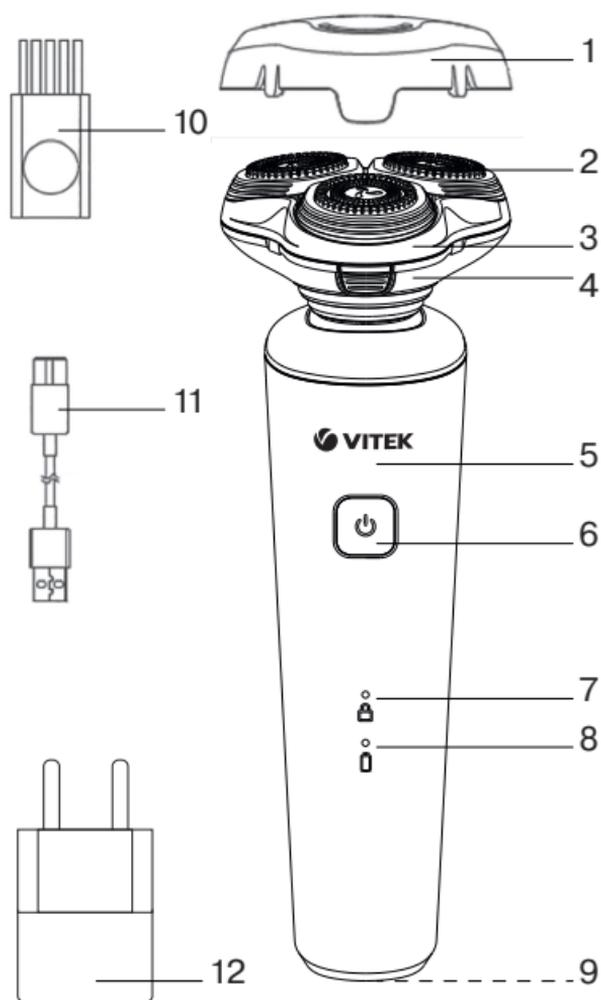
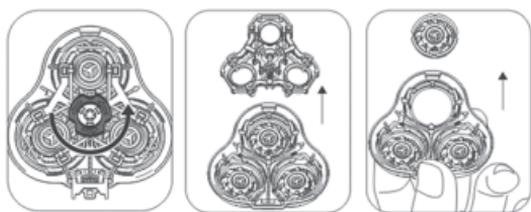

Рис. 1
Рис. 2
Shaving block (3) removal and installation (fig. 1)
- Pull upwards to detach the shaving block removable part (3).
- Insert the removable part (3) back into the shaving block body (4).
Shaving heads (2) removal (fig. 2)
- Turn the shaving block (3) clamping frame knob counter-clockwise.
- Switch the shaver off by pressing the on/off button (6), the operation indicator (8) will go out.
- To make the shaving heads cleaning easy, remove the shaving block from the shaver body (5) by pulling its body (4) upwards.
- Press the button to open the shaving block and detach the removable part (3) (fig. 1).